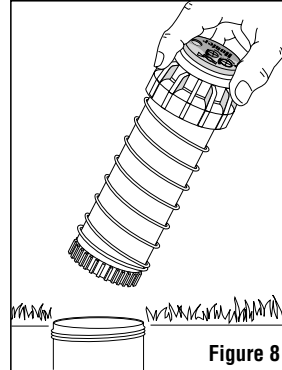

Figure 8
2. Unscrew the body cap counter-clockwise and remove the internal assembly from the body (Fig. 8). Once removed, rotate the nozzle turret to the right stop, screw the internal assembly back into the body with the nozzle aligned to the right side of the area you want irrigated. At this point you have realigned the right arc stop, you can now adjust the left arc to an appropriate setting.